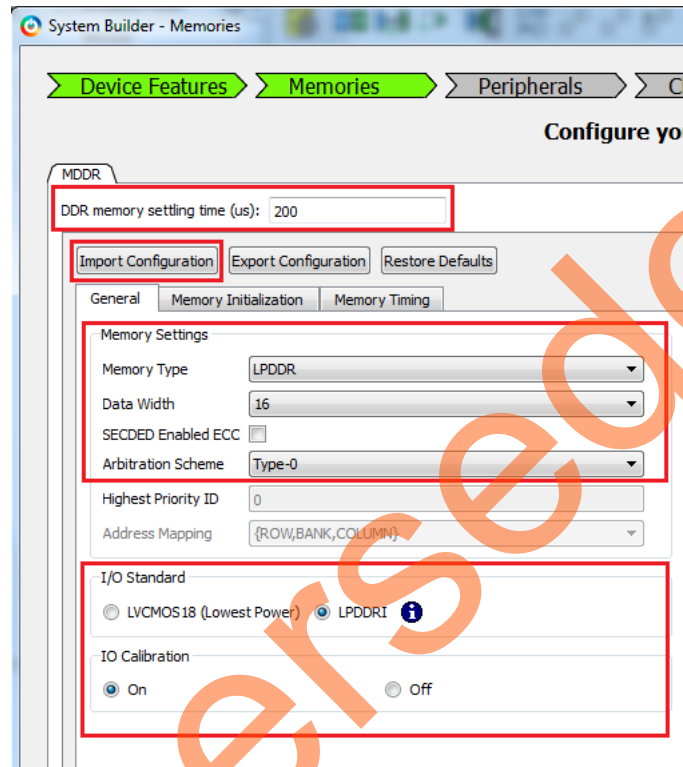

Figure 9 • Memory Configuration
2. Configure the MDDR in **Memories** tab as shown in Figure 9. In this example, the design is created to access the LPDDR memory with a 16-bit data width and no ECC.